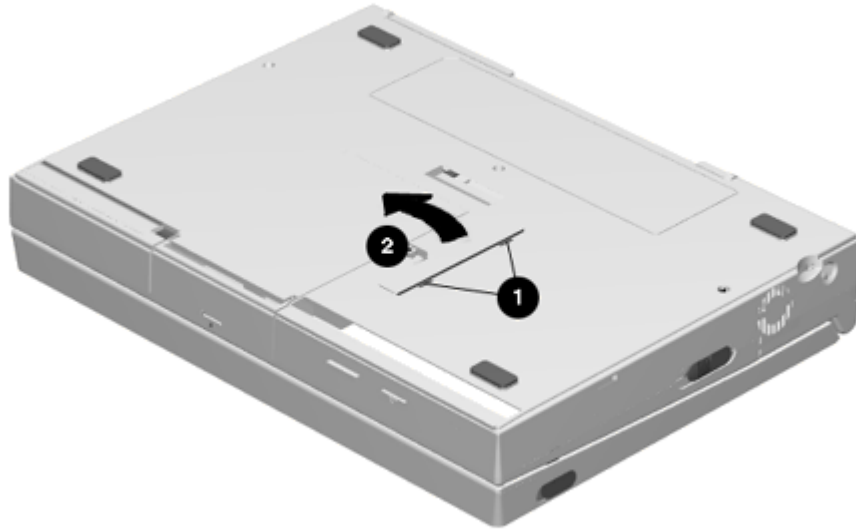

Figure 5-7. Removing the Auxiliary Battery Door
The auxiliary battery is stored in a compartment on the bottom of the computer (Figure 5-7). The auxiliary battery should be removed prior to servicing the computer.
1. Using a small flat-blade screwdriver to release the door clips [1], remove the auxiliary battery compartment door [2] (Figure 5-7).
1. Remove the auxiliary battery compartment door if it is not already off (Figure 5-7).
4. Install the auxiliary battery compartment door (Figure 5-7).